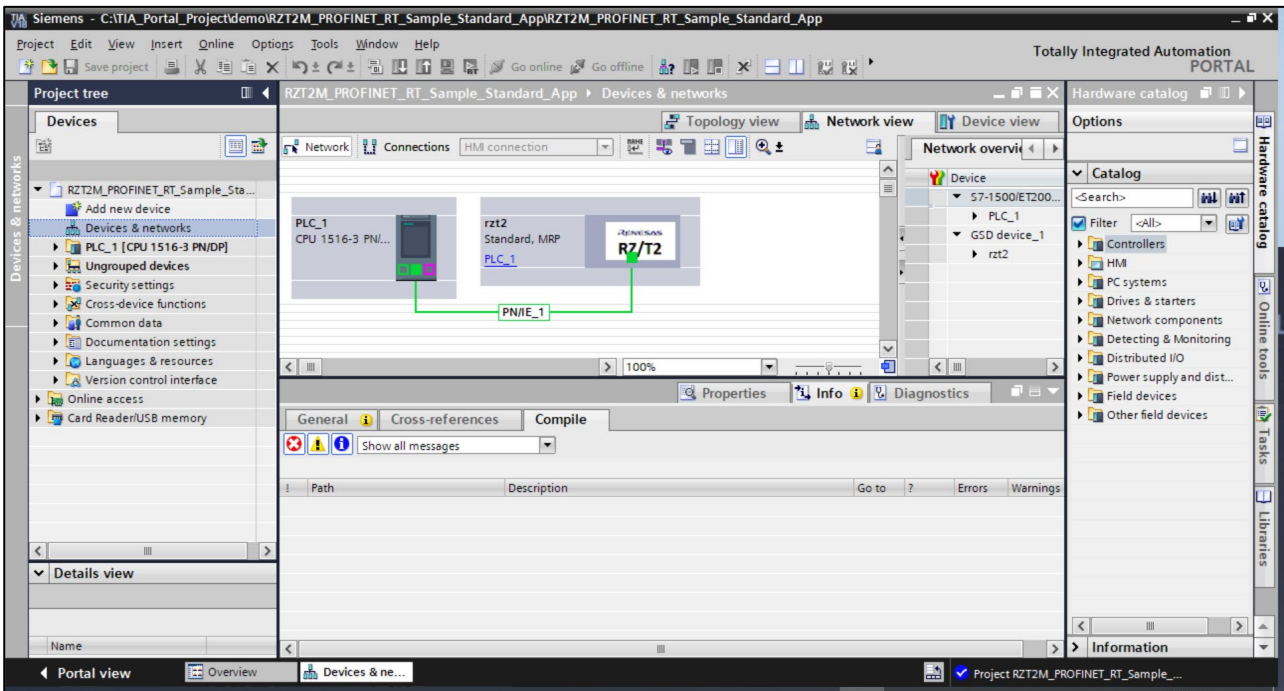

Figure 7.22. Device & network
7. The project opens. Figure 7-22 shows the screen when "Device & networks" is selected.